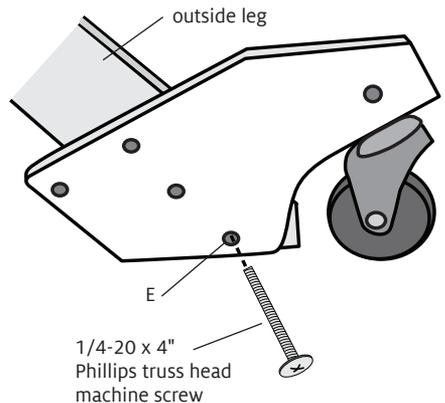

FIGURE 10: CASTER BLOCK AND OUTSIDE LEG
5. Set a caster block on the outer side of an outside leg, with the caster wheel toward the back and the floor (Figure 10). Line up hole [E] at the bottom of the